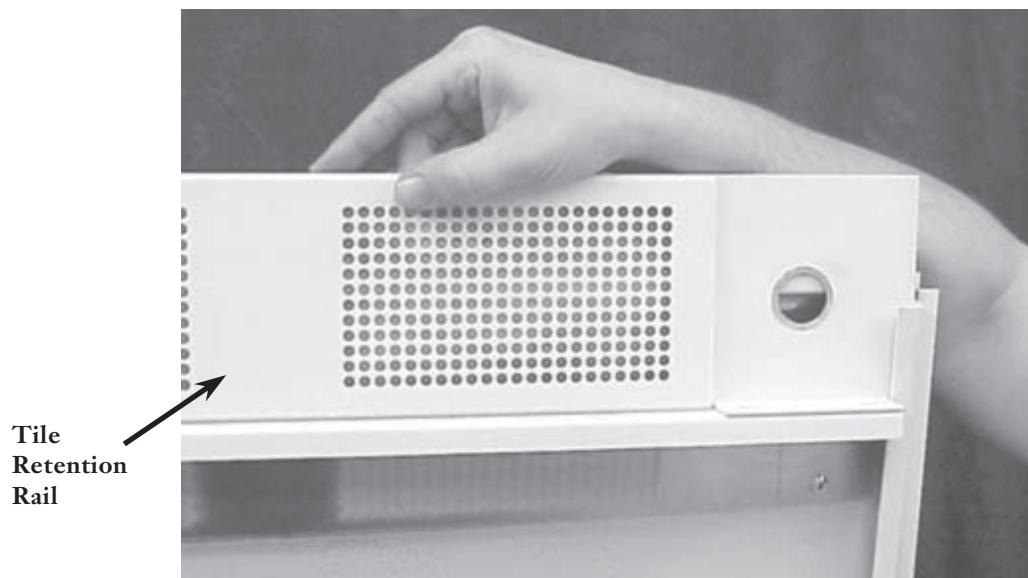

Figure 5
- Step 5** Remove the tile retention rail from the outside of the access door (Figure 5). Mark and cut a ceiling tile (not provided) to fit within the retention rails along all sides of the door.